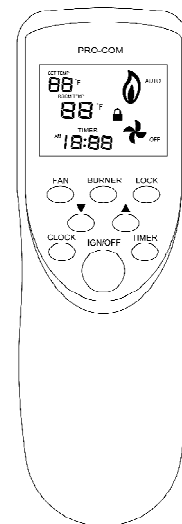

Fig 12 Front of the Transmitter
1. Press the IGN/OFF button.(see figure 12)
when the burner is in a state of key-press locking, first press ▼, then press LOCK button to unlock it (Child proof-See Fig12)
"AUTO" "MAN" and "OFF". When pushing the "FAN" button on the "AUTO" select, the fan will be controlled by the thermostat on the fan blower unit. On the "MAN" select, the fan will be kept in operation. To stop the operation, push the "FAN" button to "OFF" select. (See Fig12).